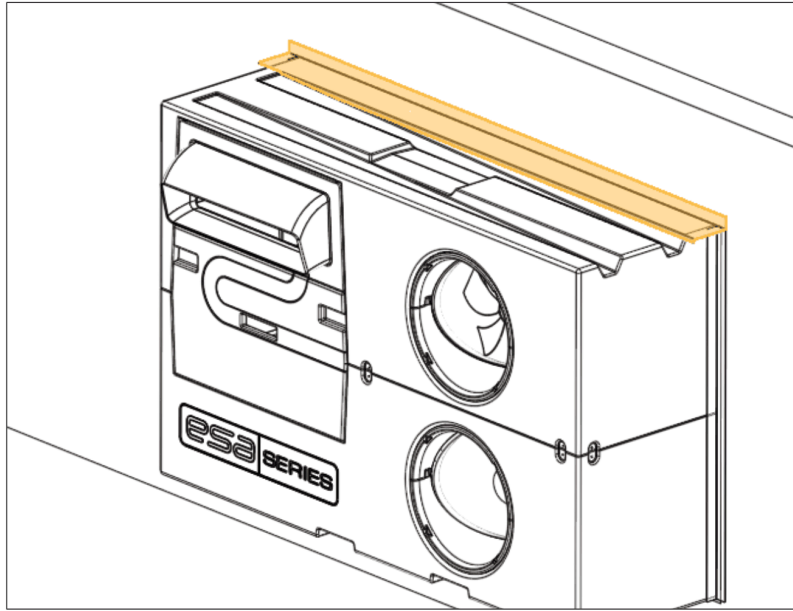

Figure 12 Positioning of the Upper drip trim
- d. Fix the ESA-3000 in place with the twenty (20) #8 x 3 deck screws included in the installation kit (item 4). There must be a screw in each hole of each flange.
- a. From the outside, install the flashing on top of the exchanger. The side of the trim parallel to the wall must be positioned behind the building's exterior cladding, according to the Figure 12. Screw the drip moulding to the wall only.